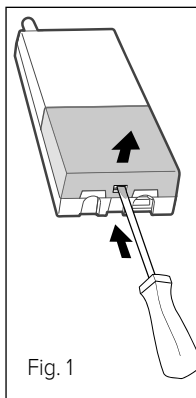

Fig. 1
- Open the cover by pressing lightly on the tab at the bottom of the aerial (Fig. 1).